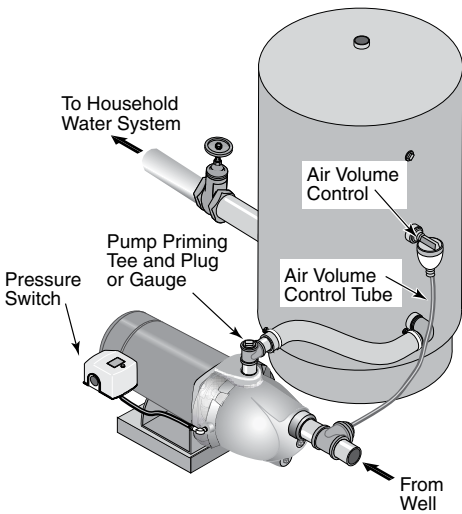

Figure 5: Standard Tank Connections
STANDARD TANK CONNECTION (Figure 5)
- Step 1. Install one tee in the pump discharge port (see Figure 5).